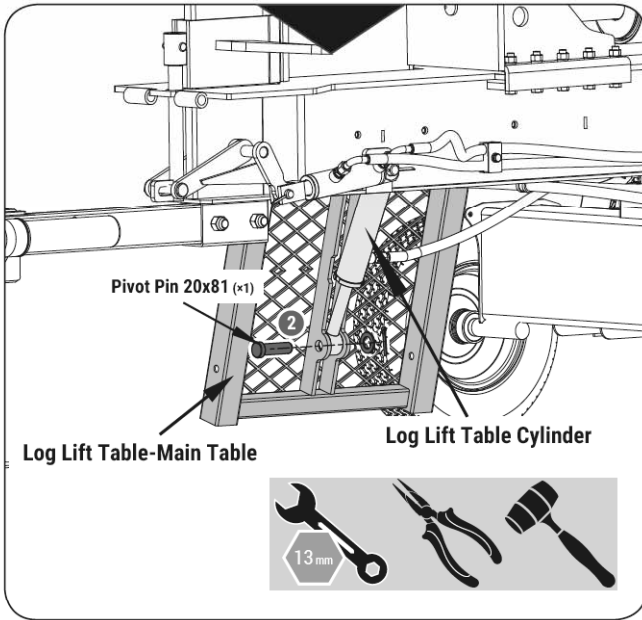

Figure 9a
1. Insert the Log Lift Table-Main Table into the frame pivot bracket and align the holes. Then insert the pivot pin 20x88 and gently tap with a hammer to ensure it is fully seated. Secure with the M8x20 bolts, spring washers and flat washers. (See **Figure 9a, Illustration 1.**)
2. Slowly lower the Log lift Table-Main table, then connect the Log Lift Table-Main Table to the Log Lift Table Cylinder and align the holes. Insert the pivot pin 20x81, secure with the flat washer and cotter pin. (See **Figure 9a, Illustration 2.**)